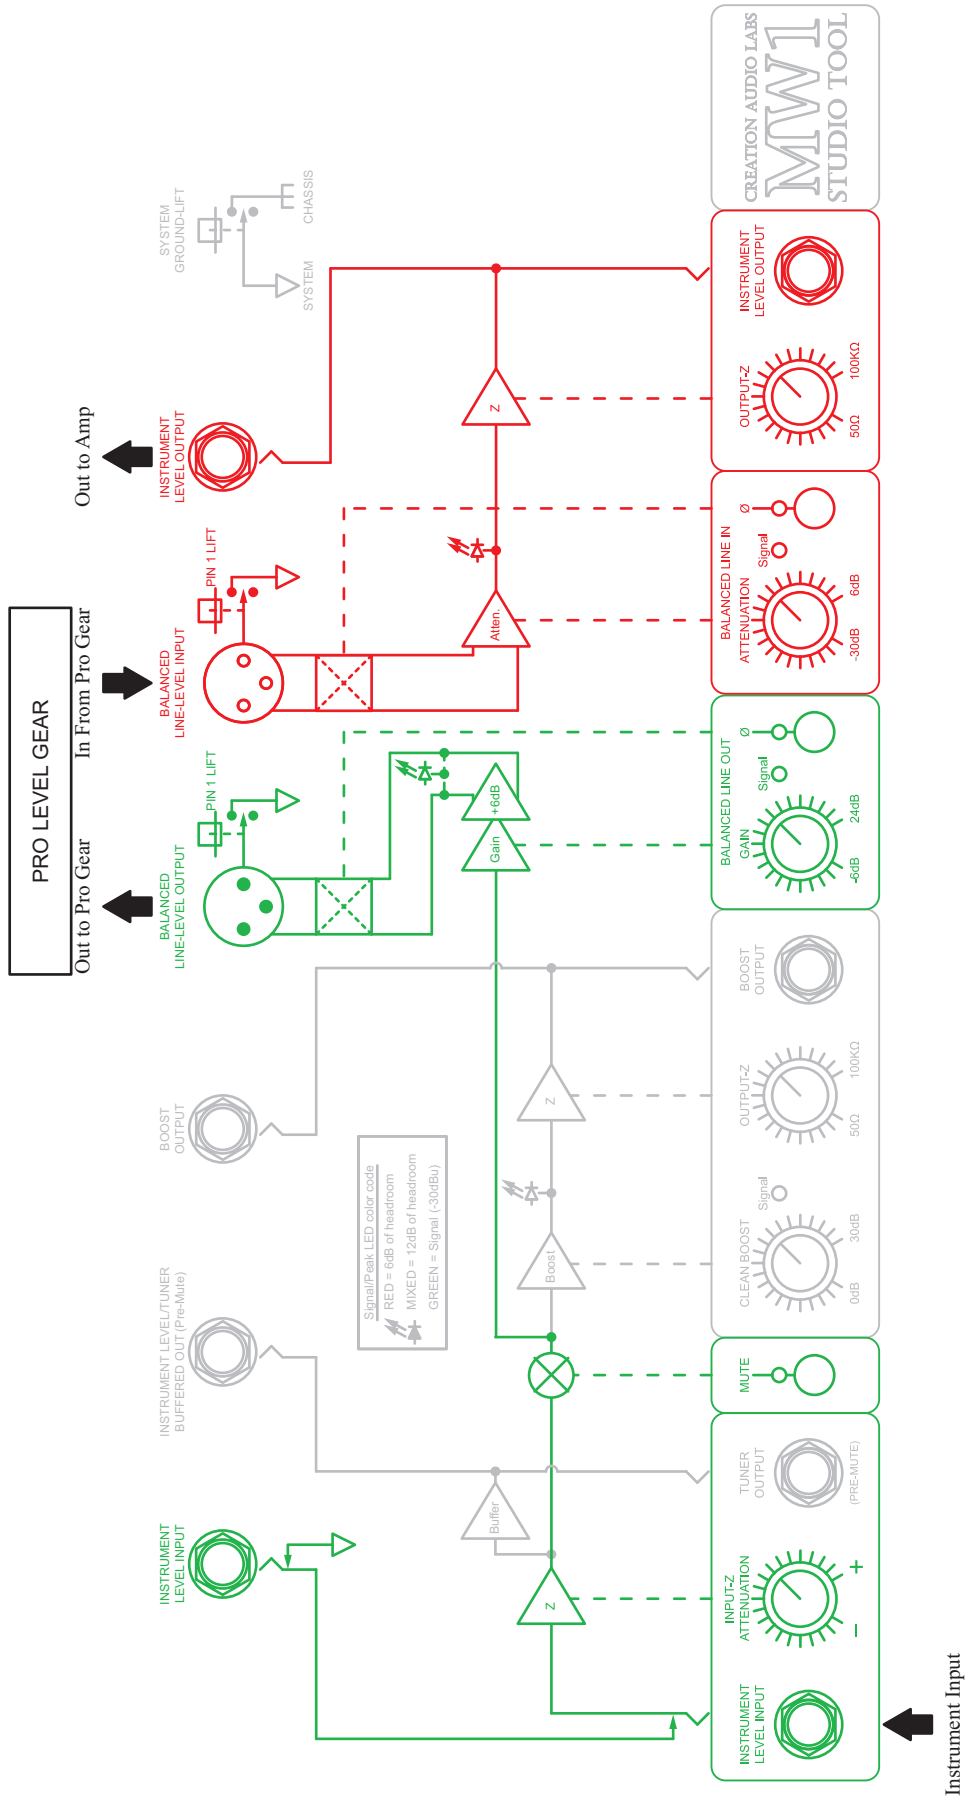

FIG. 6
- Pro level units in front of amplifiers. (Fig. 6)